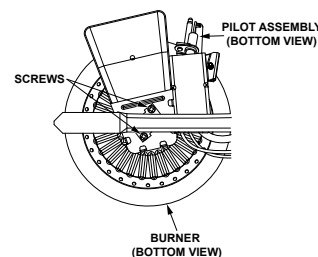

FIGURE 34.
1. Take off the burner by removing the two (2) screws located underneath the burner. **IMPORTANT:** DO NOT remove the orifice.
2. Check the burner to see if it is dirty or clogged. The burner may be cleaned with soap and hot water (Figure 34).
8. Using the pilot/thermopile assembly screw removed earlier reattach the new pilot/thermopile assembly. Reattach the burner to the manifold using the screws removed earlier. NOTE: make sure the burner scoop is oriented to the pilot side of the manifold tube (Figure 34).